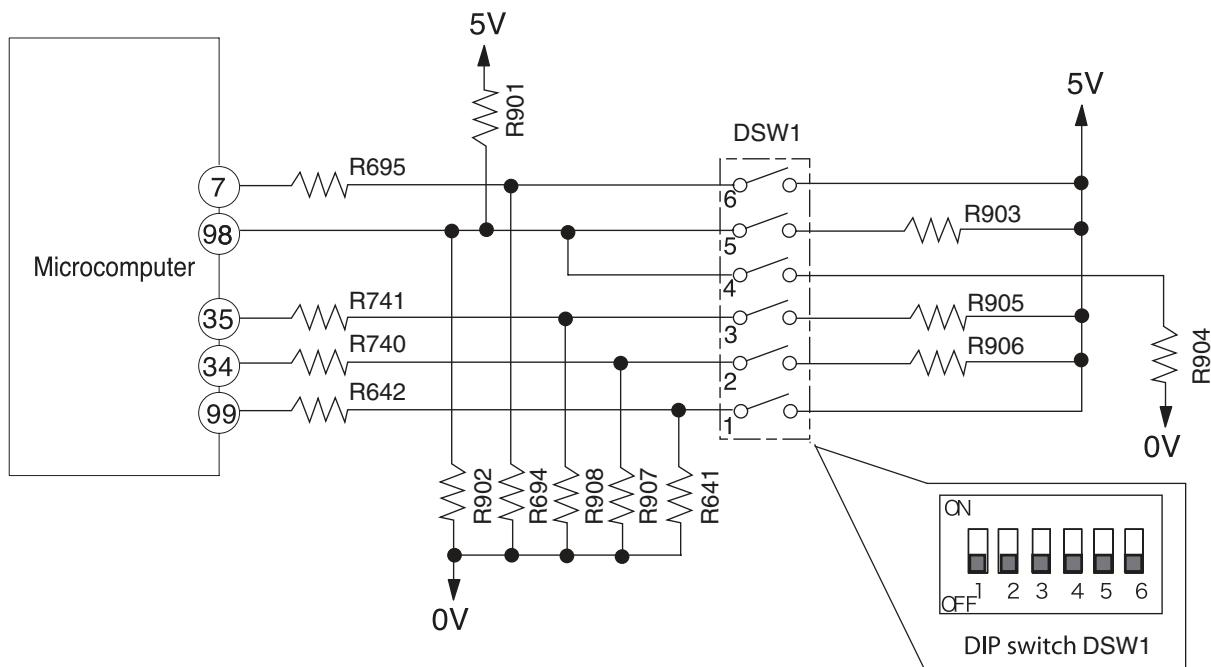

Fig.10-1 Dip switch Circuit
- Fig. 10-1 shows the dip switch circuit; the table shown in Fig. 10-2 are function and setting position from ①–⑥ of the switch no.